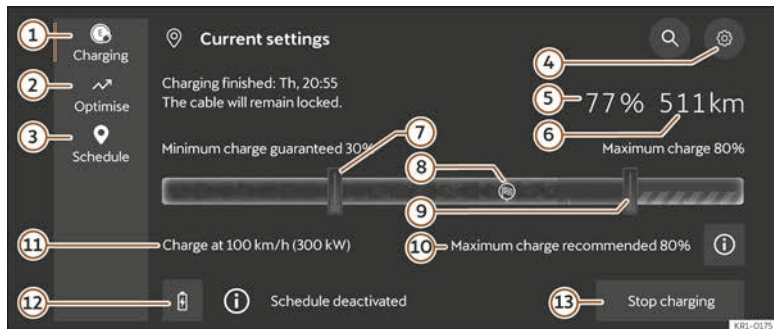

Fig. 64 In the infotainment system: Charging main menu.
1. Access the **Schedule** charging menu >>> Fig. 64 ①.
• **Maximum charging level >>> Fig. 64 ⑨:**
2. Push the ④ >>> **Fig. 64** button.